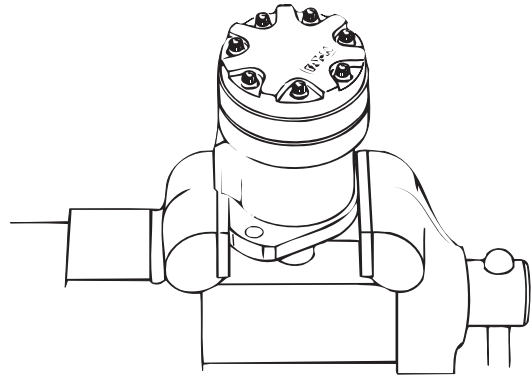

Figure 1
1. Place motor in vise, clamp across edge of flange with output shaft down. When clamping, use protective device on vise, such as soft jaws, pieces of hard rubber or wood, see Fig. 1.